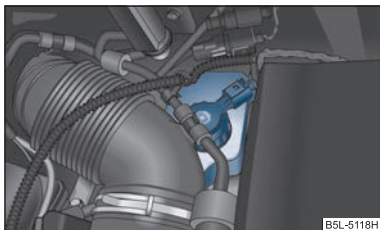

Fig. 169 Engine compartment: Brake fluid reservoir
- Inspect the brake fluid level in the reservoir ⇒ fig. 169. The level must be between the "MIN" and "MAX" markings.